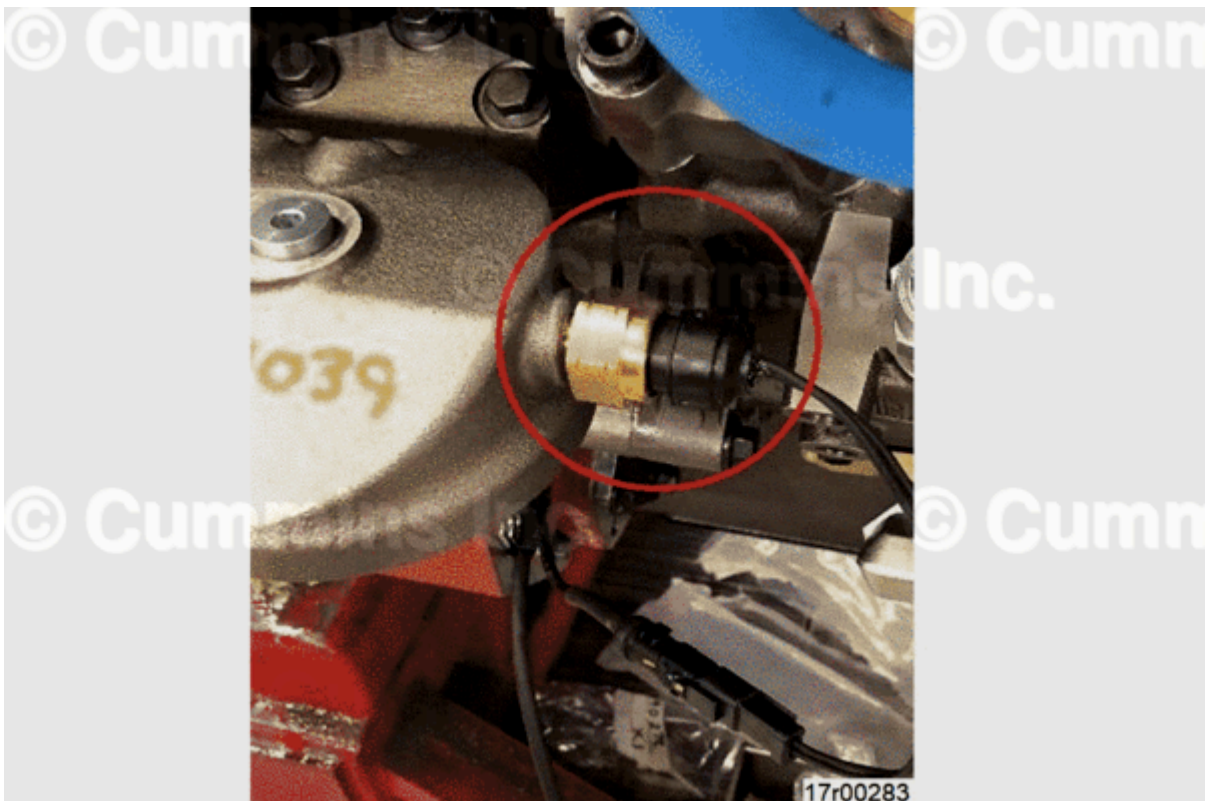

Figure 15, Secondary Lubricating Oil Pressure Sensor Location.
8. Install secondary lubricating oil pressure sensor behind filter location in location lubricating oil filter head. See Figure 15 above.